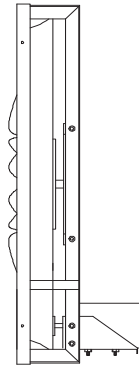

FIGURE 1.
#### (a) Motor Mounting - Style L, H and AL models (see Figure 1).
- (1) Remove motor bracket from its shipping position on fan frame. Attach motor bracket to motor (see Figure 1 for correct positioning of bracket to motor).
- (2) Place fan in upright with bracket mounting holes in uprights below center of fan.
- (3) Hang motor and motor bracket from belt by placing motor pulley on belt and temporarily supporting back of motor as necessary.
- (4) Select correct bracket holes so that slots in motor bracket will allow adjustment up and down.
- (5) Fasten motor bracket to uprights with four bolts provided. Make sure motor base remains level. Do